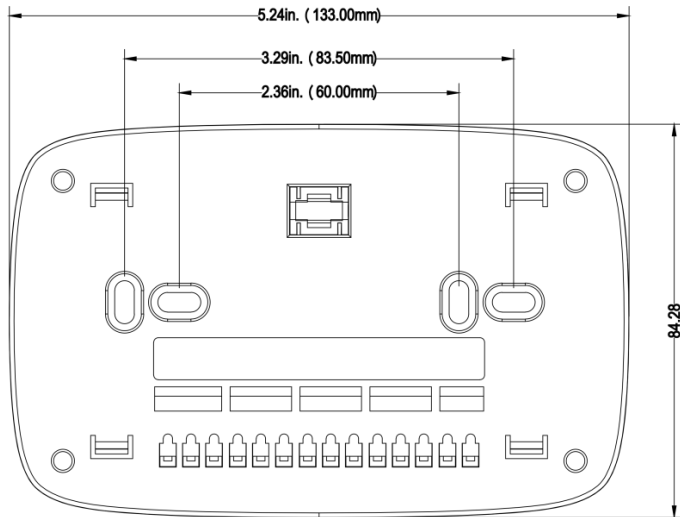

Fig. 3. Lakepro-1 wall plate dimensions in inches. (mm).
3. Lakepro-1 wall plate dimensions: see Fig. 3.